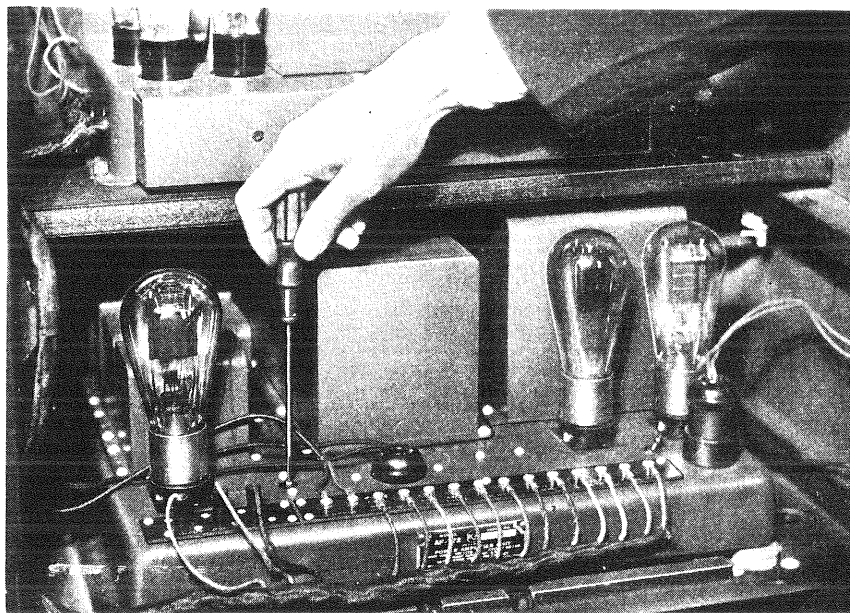

Figure 10—Adjusting the hum suppressor
- (b) With an insulated screw driver, adjust screw (See Figure 10), until the position is found where the least A.C. hum is heard in the reproducer unit.